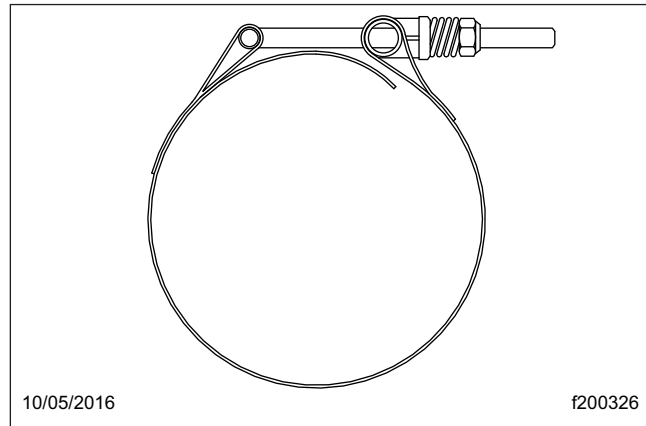
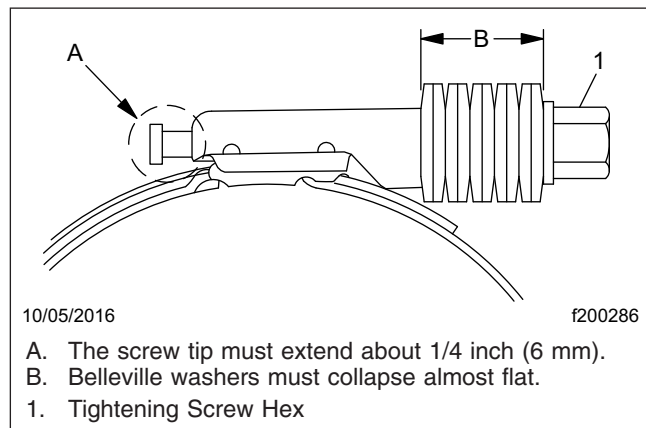

Fig. 2, T-Bolt Type Hose Clamp
Fig. 3, Breeze Constant-Torque Hose Clamp Installation
10. Connect the hoses. The hose clamps can be either T-bolt clamps (see Fig. 2) or Breeze Constant-Torque clamps (see Fig. 3).